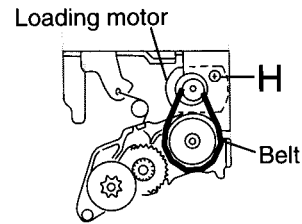

Fig.5
- Turn the unit upside down, then insert and turn to **b** the screwdriver to remove the bottom cover. (See fig 5)